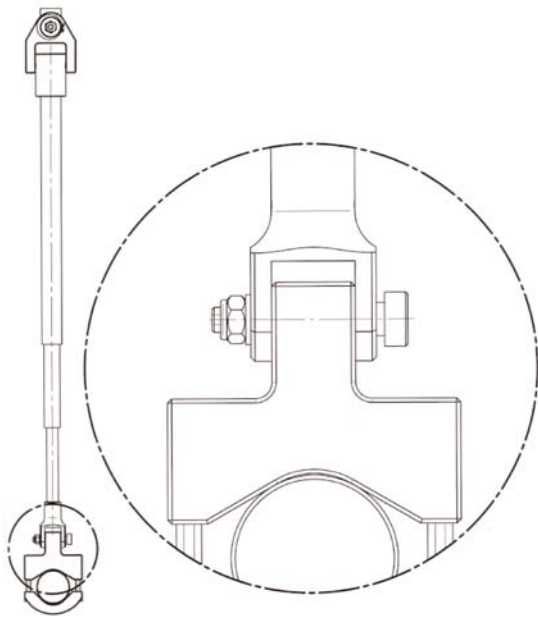

Fig 1
3. Check that there is no excessive play in the clamp/yoke link (see Fig 1).